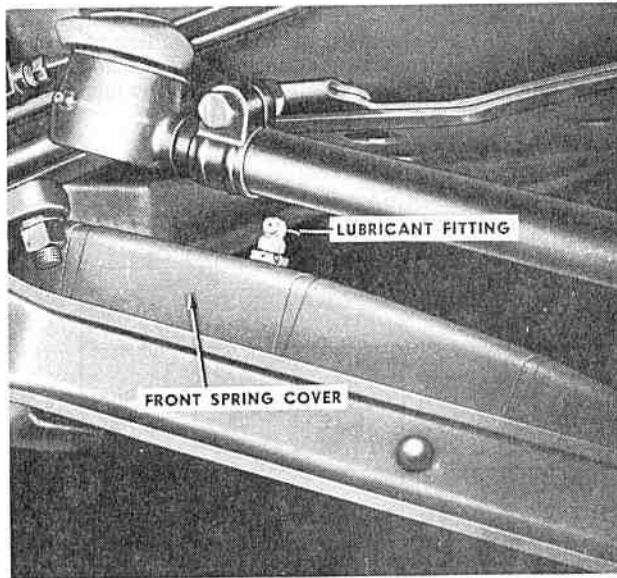
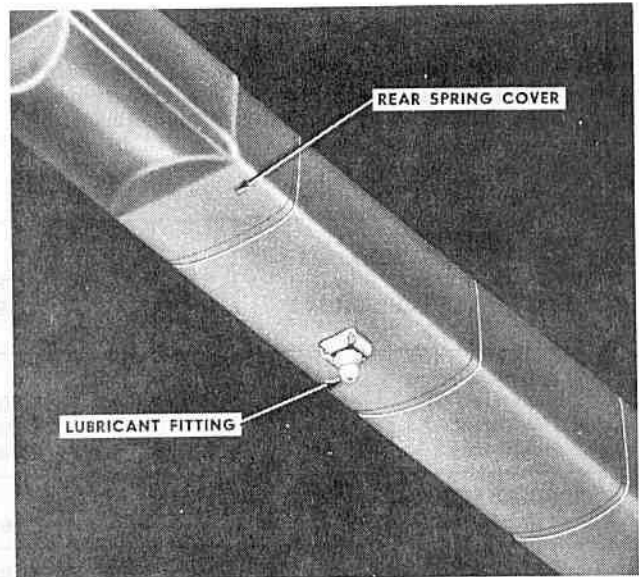

FIG. 356
FIG. 357
**CHAMPION AND COMMANDER** Chassis springs equipped with lubrication fittings should be lubricated with a good grade of graphite spring lubricant at 1000 mile (1609 km.) intervals. Two 90° lubricant fittings are used on the top of the front spring covers and are lubricated from the front as shown in Fig. 356. Each rear spring is equipped with two 180° lubricant fittings located on the under side of the covers as illustrated in Fig. 357.